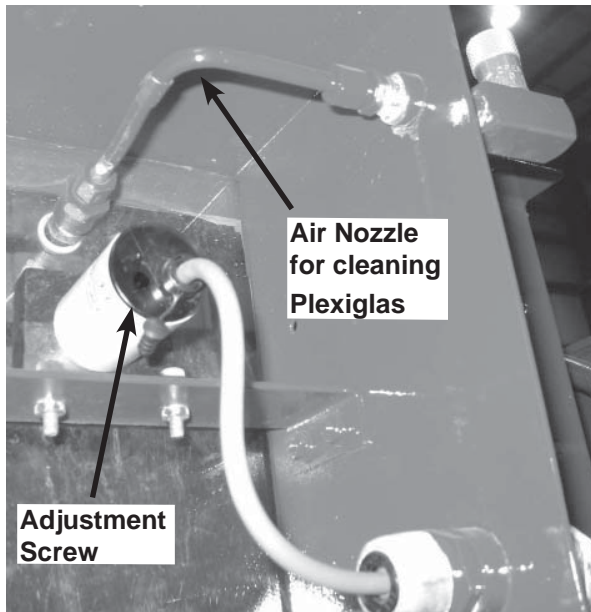

Figure 33 - Level Detector (PROX 1) / Air Nozzle
The Level Detector that is located on the side of the in-feed chute (see Figure 33) is active only when CYCLE MODE switch is in TRIG position. The level detector will detect product that sits in front of it for more than 1 second. The level detector will send a signal to the DVC program and the plunger will move according to pot #1 (PRODUCT DELAY) and pot #4 (EXTEND DELAY) setting located inside the panel (see Potentiometer on page 13).
**Adjust Level Detector Sensitivity** The cover plug at the back of the level detector covers the sensitivity adjustment (Figure 33). Remove the cover plug. The plug provides a seal against dirt and moisture.